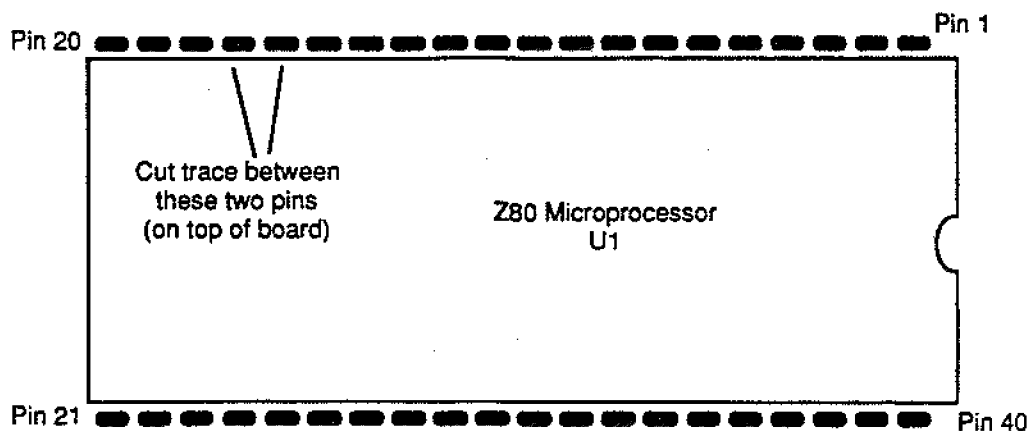

Figure 4
- I) Using an Xacto knife, carefully cut the trace going between pins 16 and 17 of the Z80. See figure 4.